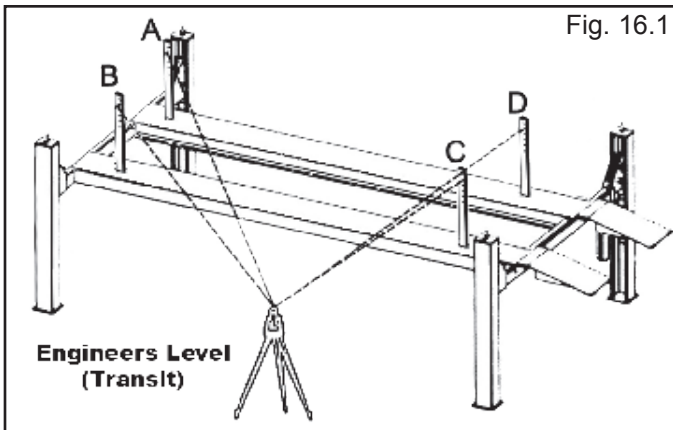

Fig. 16.1
4. Place a Level target on the right/ front corner of the runway. (See Fig. 16.1)
5. Beginning with “ A ” position, sight the level to the target and mark the number or the graduation on the inch scale of the target that aligns to the cross hairs of the Level, (See Fig. 16.1)
6. Next, move the target and place it at point “ B ” on the runway. (See Fig. 16.1)
8. Adjust the adjustment nut on the safety ladder bar at the top of the Column at “ B ” until the cross hair of the Level align to reference mark on the target scale. (See Fig. 16.1)
9. Repeat steps locating the target assembly at points “ C ” and “ D ” and adjusting safety ladders at each corresponding Column until the reference mark on the target scale is on the cross hair of the Level. The runways are now level at all four points. (See Fig. 16.1)